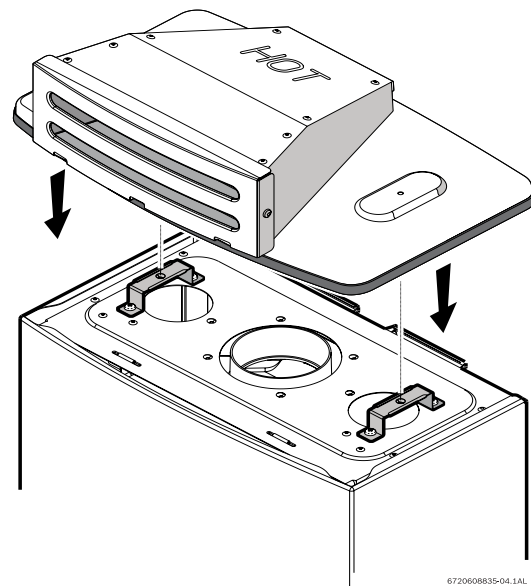

Fig. 4
- ▶ Position the outdoor vent cap on the top of the appliance, as shown in Fig. 4.